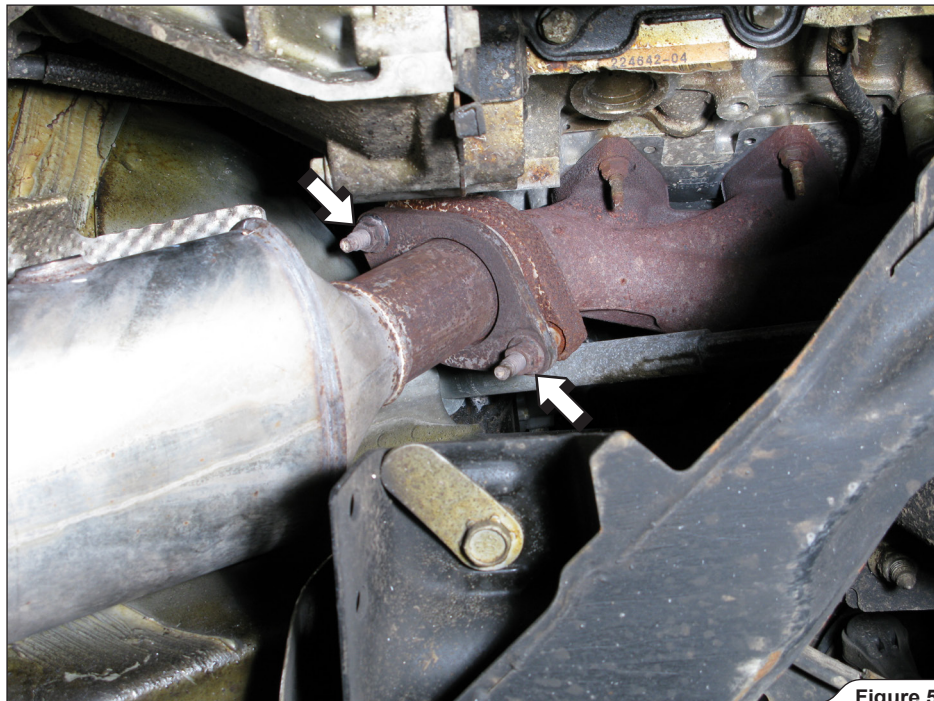

Figure 5
5. **For Evolution only:** unscrew marked flange nuts on both sides of the engine (**Figure 5**).